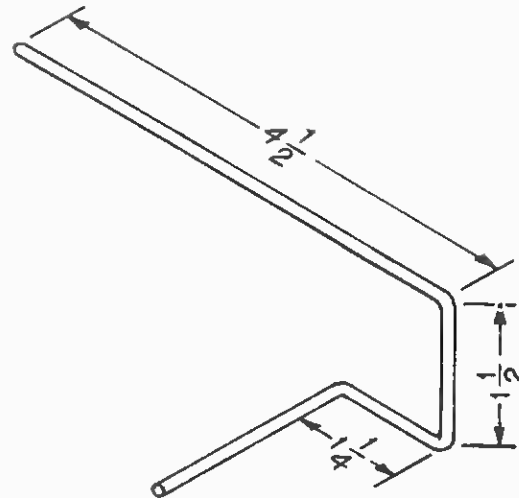

FIGURE 20
- ✓ $9\frac{1}{2}$ " heavy bare wire. Form this wire to the dimensions shown in Figure 20.